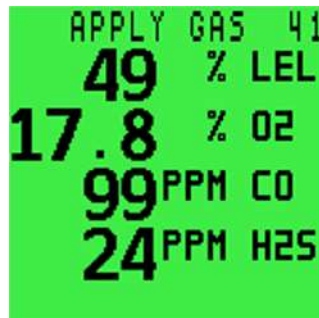

Figure 9-4: APPLY GAS Screen
5. Once gas is applied, press and hold the **R** button to start the calibration. The 60 second countdown will commence (refer to Figure 9-4: APPLY GAS Screen). After 60 seconds, the monitor will be calibrated to the predefined values.